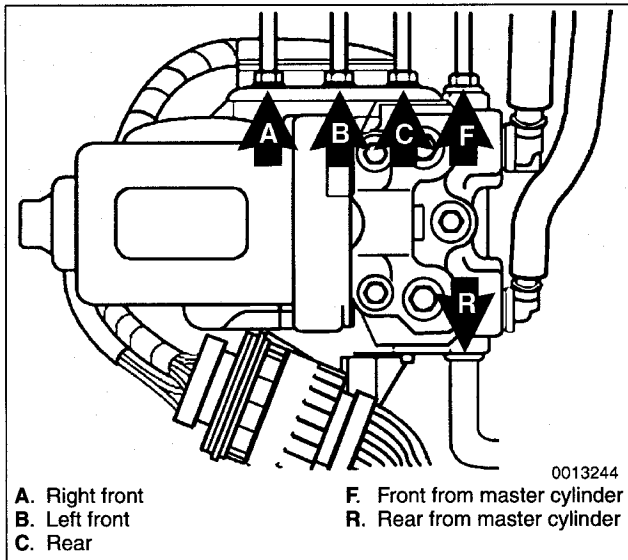

Fig. 12. Brake fluid lines at ABS hydraulic unit.
- Disconnect ABS electrical connectors. Label and then disconnect brake lines from hydraulic brake unit. Plug openings. See Fig. 12.